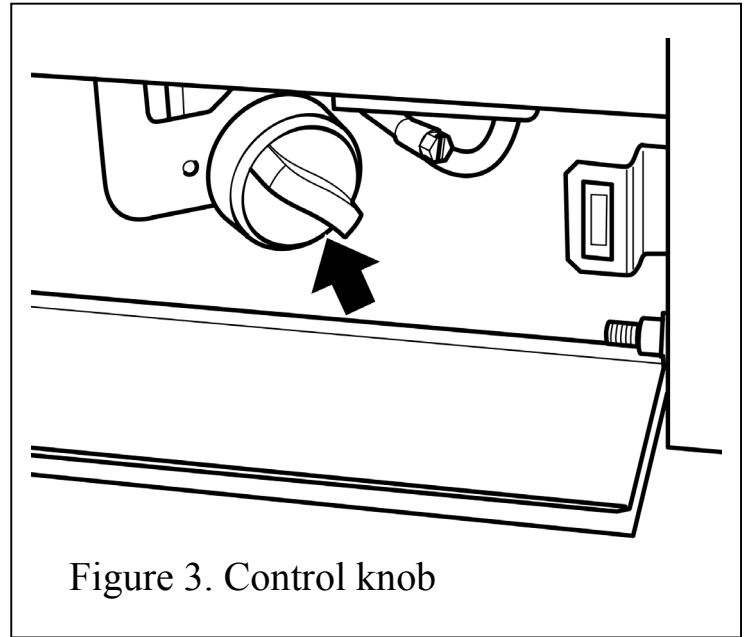

Figure 3. Control knob
► Depress the control knob and turn anticlockwise towards the PILOT/IGN position (See figure 3). A spark should be generated at the pilot while turning. The spark should ignite the pilot. The pilot flame can be seen at the left side of the pebbles.